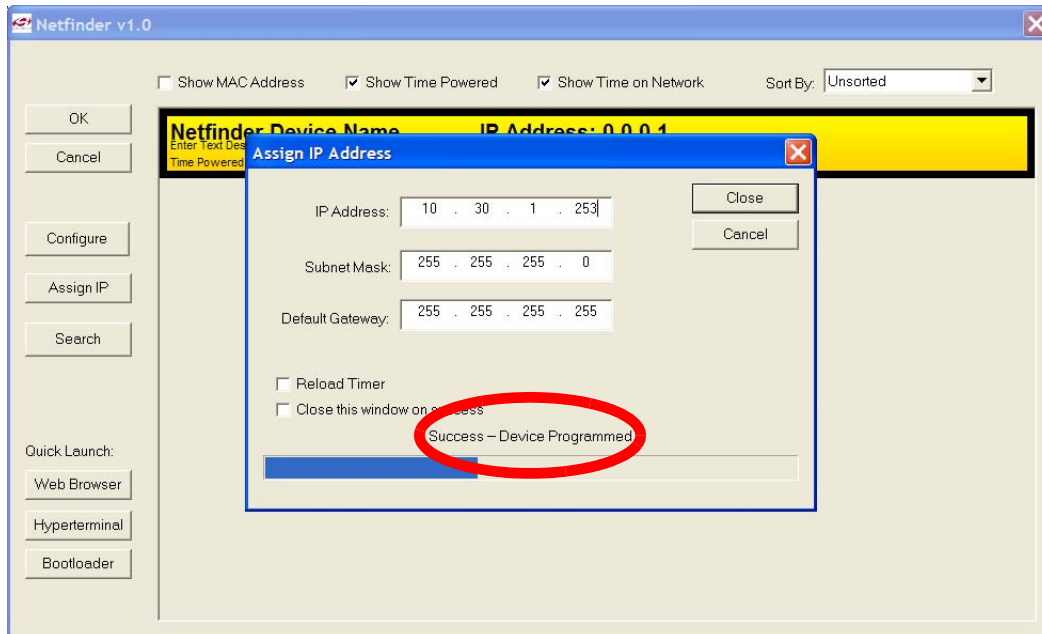

Figure 18. Assign IP Address Dialog
7. Enter the IP address, subnet mask, and default gateway (if known) into the 'Assign IP Address' dialog and press **OK**. See Appendix A for information on how to configure the PC with a static IP address and how to select a static IP address for the CP2201EB. A windows command line window should appear, ping the device at its new address, then close. Programming is successful when the progress bar stops and gives the message "Success - Device Programmed" as shown in Figure 18.